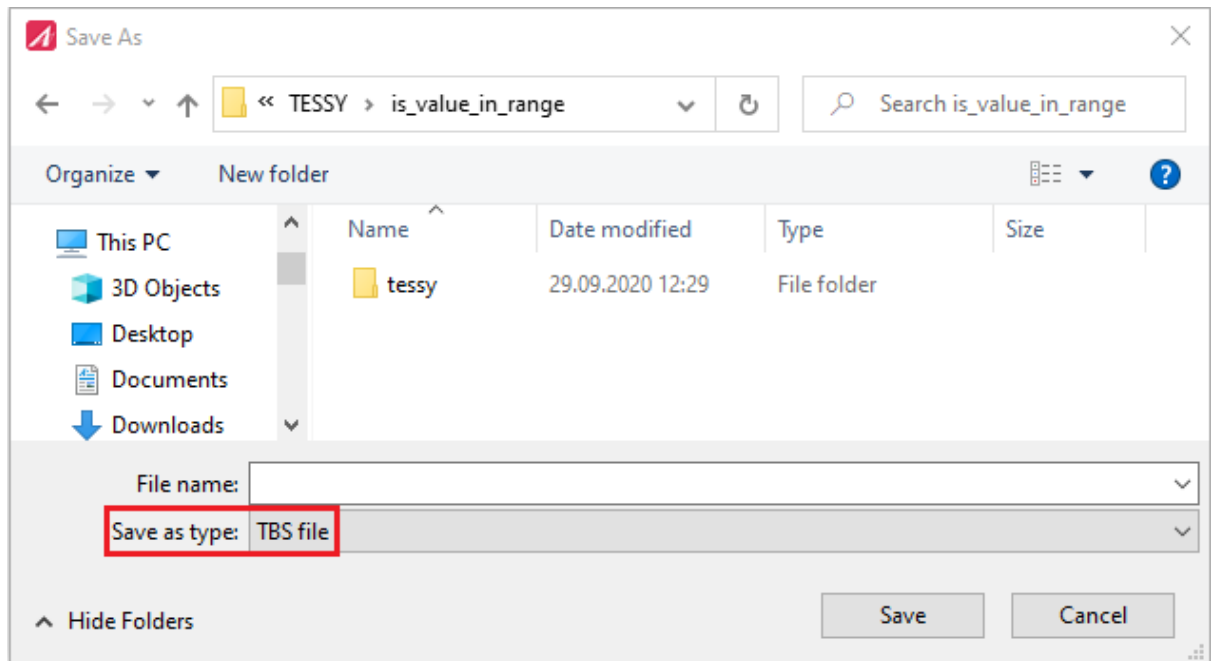

Figure 6.55: Saving the settings of a batch operation as TBS file
- Choose the type of the file and click “Save” (see figure 6.55).